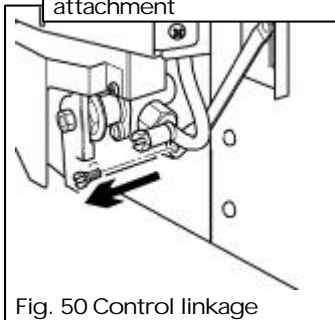

Fig. 50 Control linkage
13.7.3 Disconnect the control linkage by removing the knurled screw which connects the control linking bar with the control pivot unit (see figure 50)